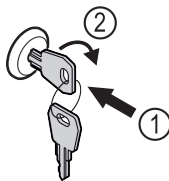

Fig. 170
- ▶ Insert the key. Fig. 170 (1)
- ▶ Turn the key clockwise by 90°. Fig. 170 (2)